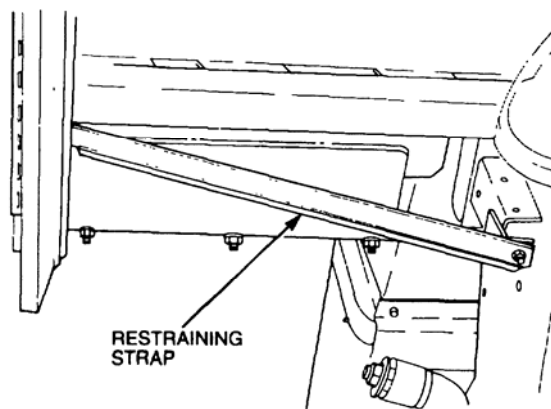

Figure 19 Removal of the Body Restraining Strap
- pp. Remove the bolts securing the rear body restraining straps (Figure 19) to the chassis.
- w. Install the nuts, washers and bolts retaining the rear body restraining stays (Figure 19).